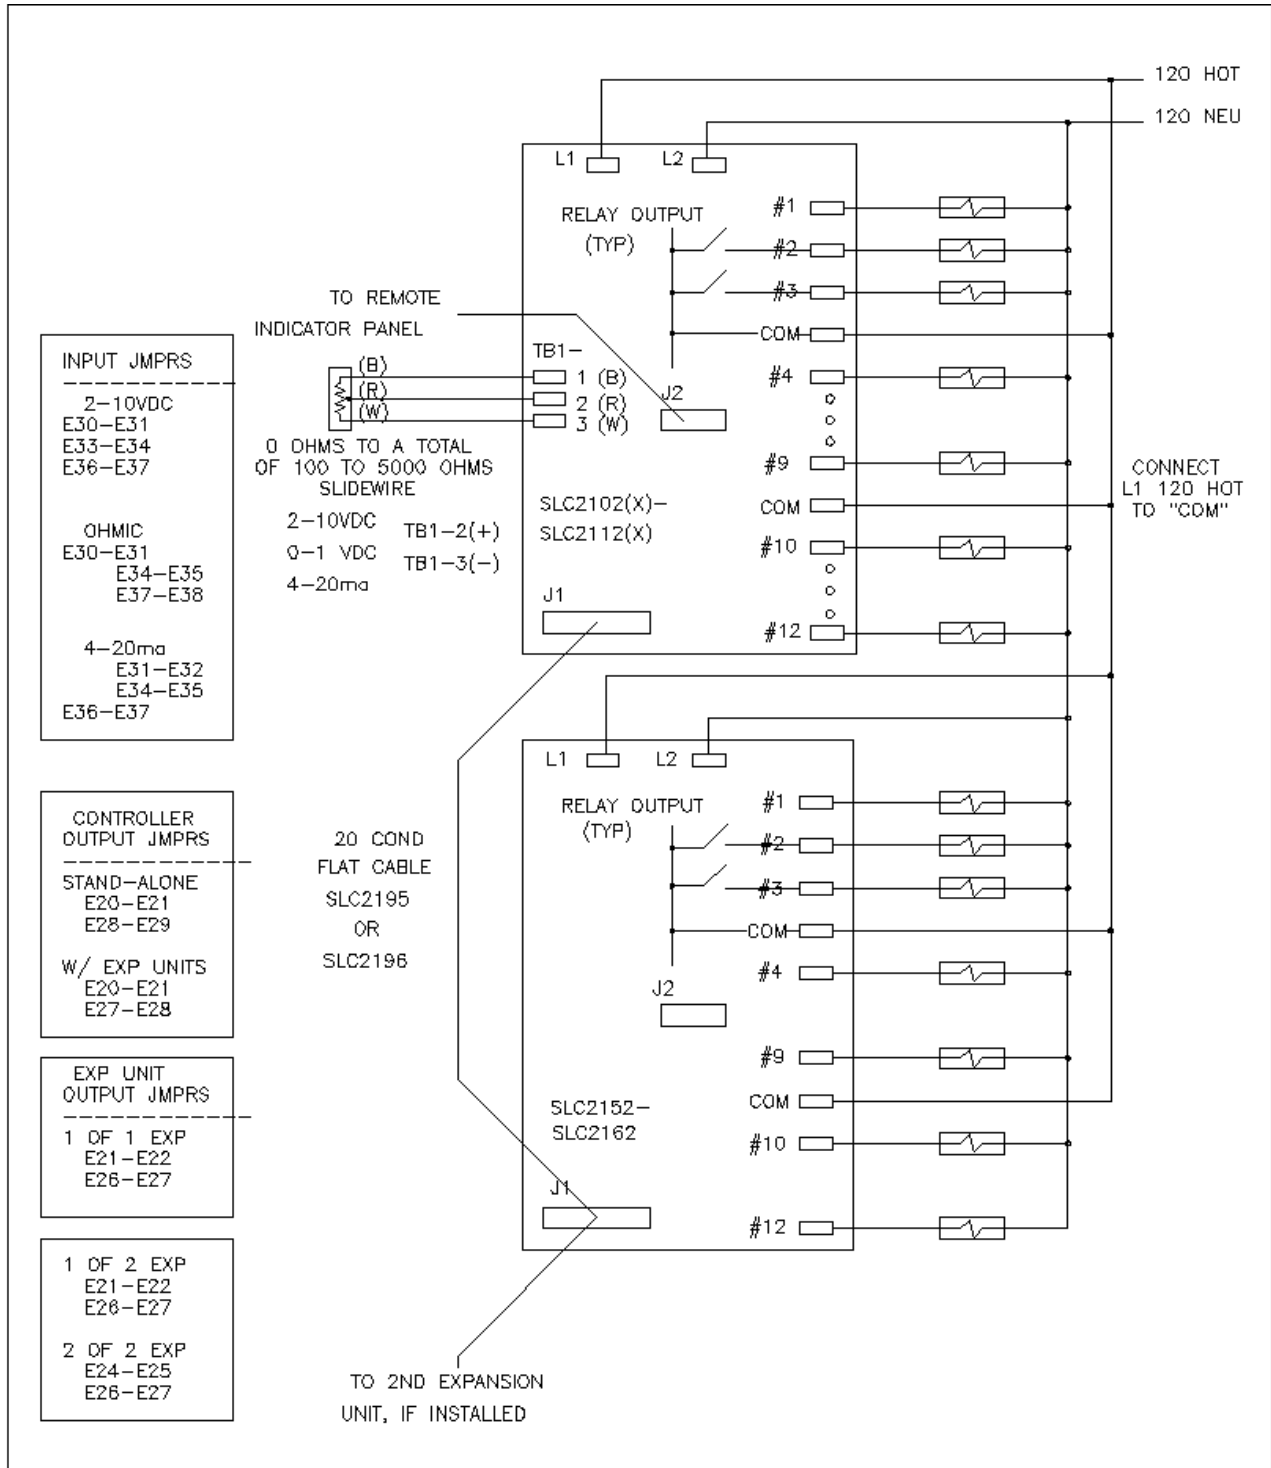

Figure 5 FIELD WIRING DIAGRAM
Disconnect the input signal and connect a potentiometer per the wiring diagram, Figure 5.
4.1.8 Disconnect the Command Potentiometer (if used) and re-connect the input signal per wiring diagram of Figure 5.
Sensor not wired correctly	Wire sensor per Figure 5